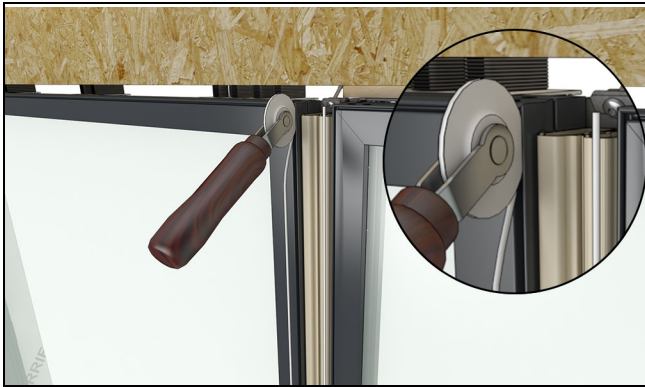

Figure 154
36. Using a screen spline roller or similar tool, apply frame kerf weather strip in the frame kerf along the mull. See Figure 154.